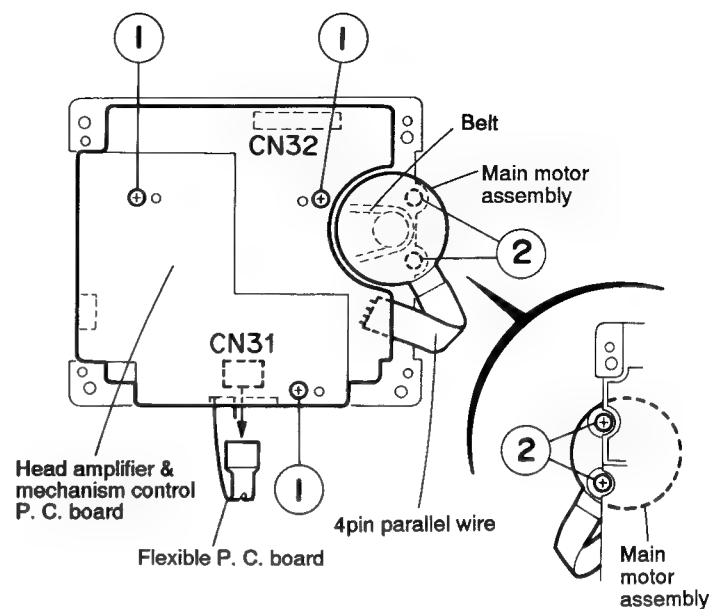

Fig. 5-22
■ Removing the Head Amplifier & Mechanism Control P.C. Board (See Fig. 5-22)
2. After turning over the cassette mechanism assembly, remove the three screws ① retaining the head amplifier & mechanism control P.C. board.
1. Remove the two screws ② retaining the main motor assembly (See Fig. 5-22, 22a).